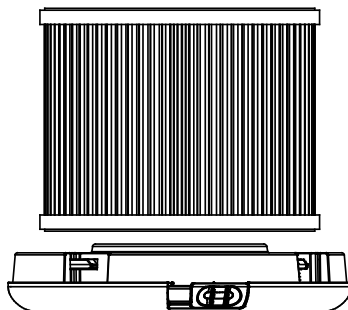

fig. 2
4. Take out the integrated filter (7) from the housing (8). Be careful not to tip the device over (fig.2).
5. Install a new filter in the housing (8). Remove the protective film from the new filter, if used.
6. Put on the cover (5) and lock it with the slider (6).